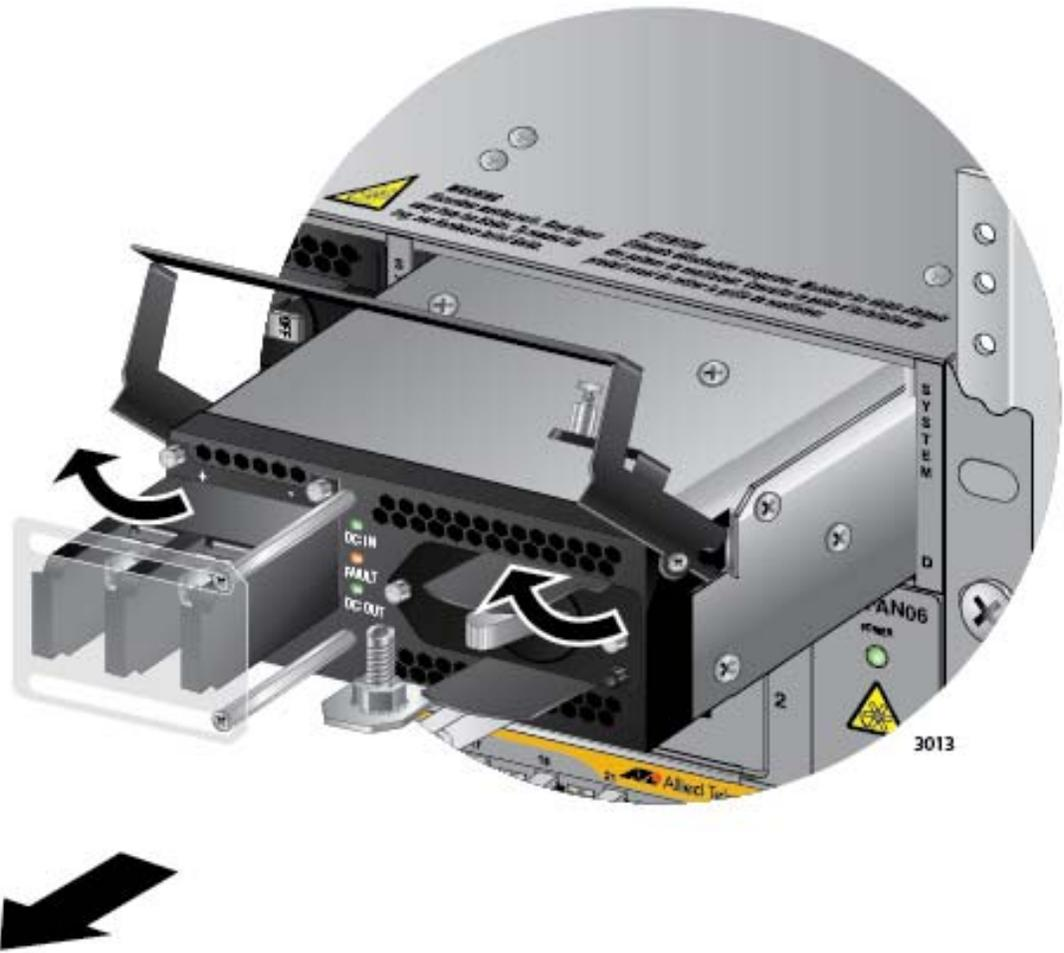

Figure 150. Lifting the Locking Handle and Removing the Power Supply
11. Lift the locking handle and slide the power supply from the chassis. Refer to Figure 150 on page 219.